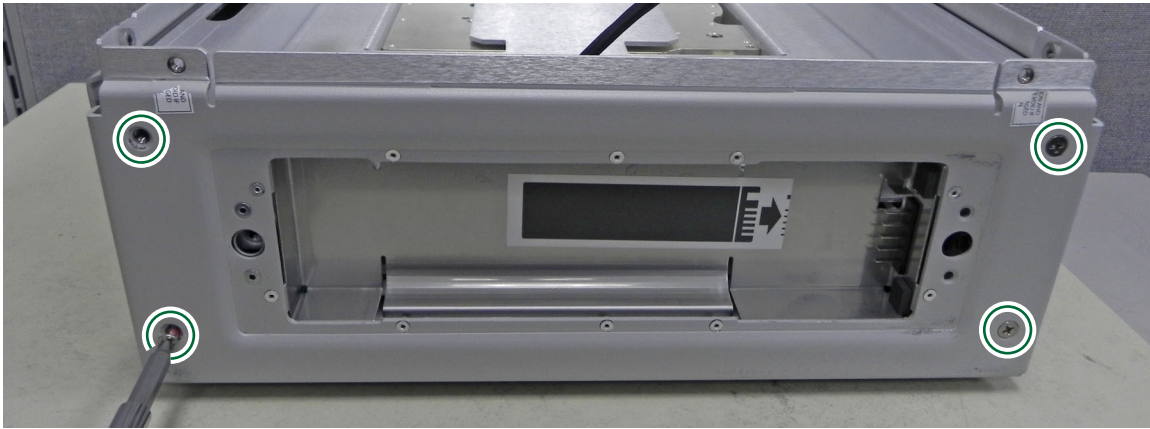

Figure 5-23. Remove Bottom Panel Screws
5. Remove the 4 screws holding the bottom panel (Figure 5-23).